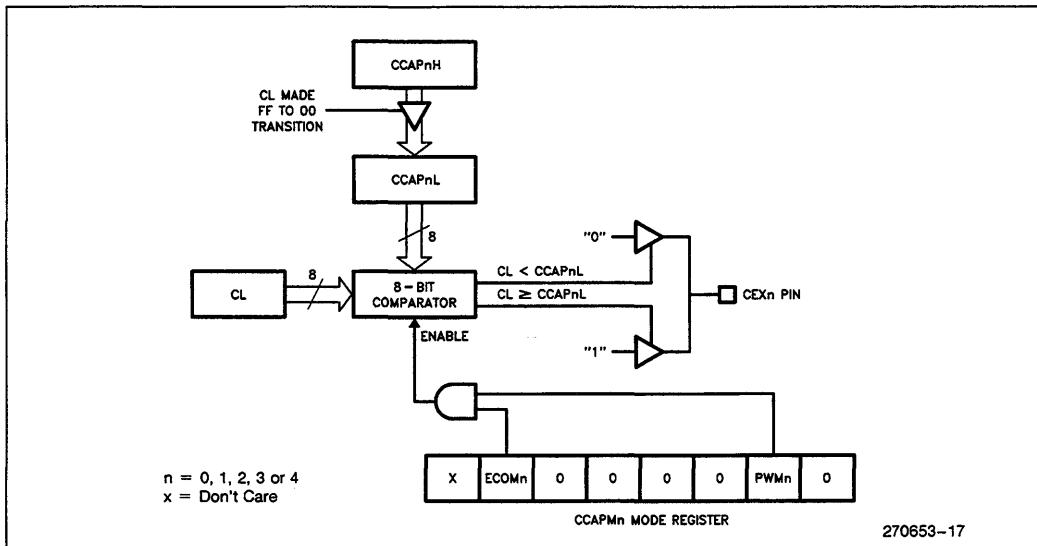

Figure 20. PCA 8-Bit PWM Mode
The PCA generates 8-bit PWMs by comparing the low byte of the PCA timer (CL) with the low byte of the module's compare registers (CCAPnL). Refer to Figure 20. When $CL < CCAPnL$ the output is low. When $CL \geq CCAPnL$ the output is high. The value in CCAPnL controls the duty cycle of the waveform. To change the value in CCAPnL without output glitches, the user must write to the high byte register (CCAPnH). This value is then shifted by hardware into CCAPnL when CL rolls over from OFFH to 00H which corresponds to the next period of the output.